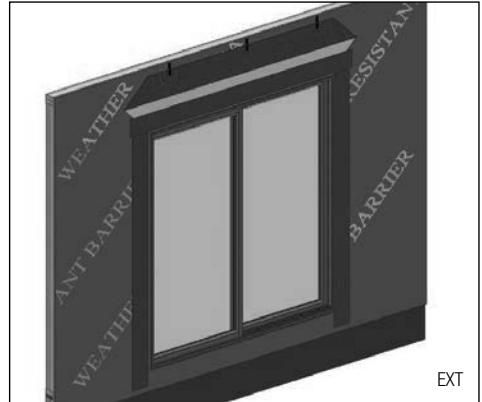

FIG. 16
- Cut and apply head flashing. The head flashing should run slightly past the edge of the side flashing. (Fig. 16)